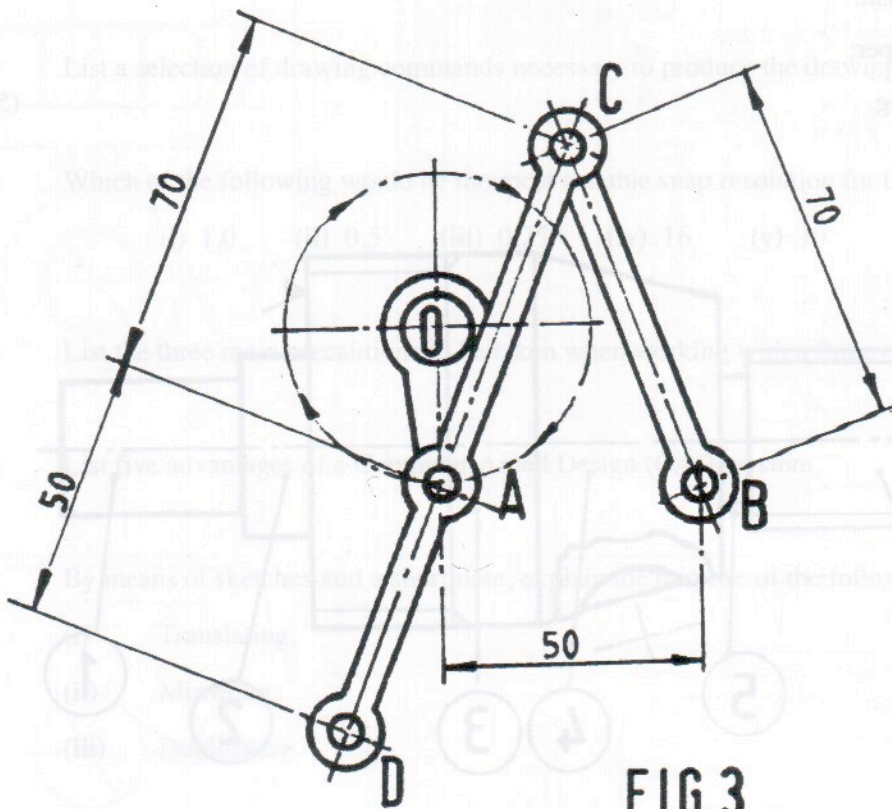

FIG. 3
- (b) Fig. 3 shows a machine linkage. B and O are fixed points and BC and CD are two links which are pivoted at C. The point A is connected to a crank pin which moves as indicated in the pitch circle about O.